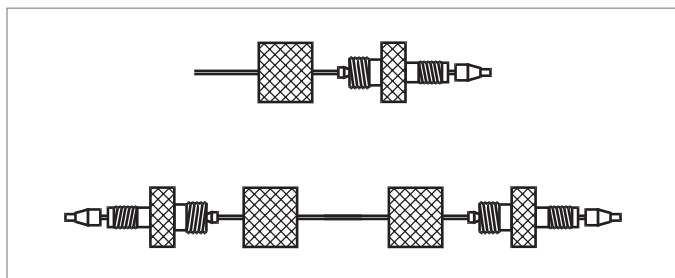

Figure 5: Single and Double SLIPFREE® Connectors
2. Cut the tubing, replace the ferrule and make a new connection. Alternatively, replace the conventional compression screw fitting with an all-in-one PEEK fitting (Waters part number PSL613315) that allows resetting of the ferrule depth. Another approach is to use a Keystone, Inc. SLIPFREE® connector to always ensure the correct fit. The fingertight SLIPFREE® connectors automatically adjust to fit all compression screw type fittings without the use of tools (Figure 5).